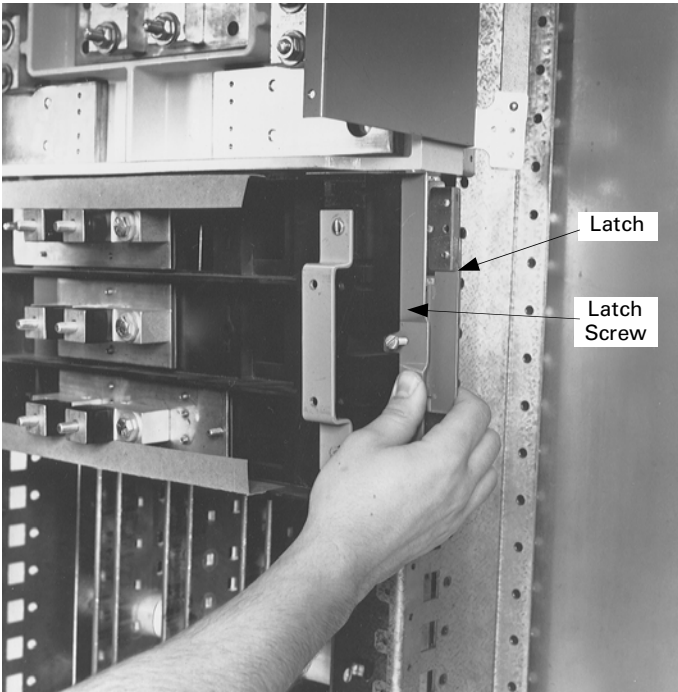
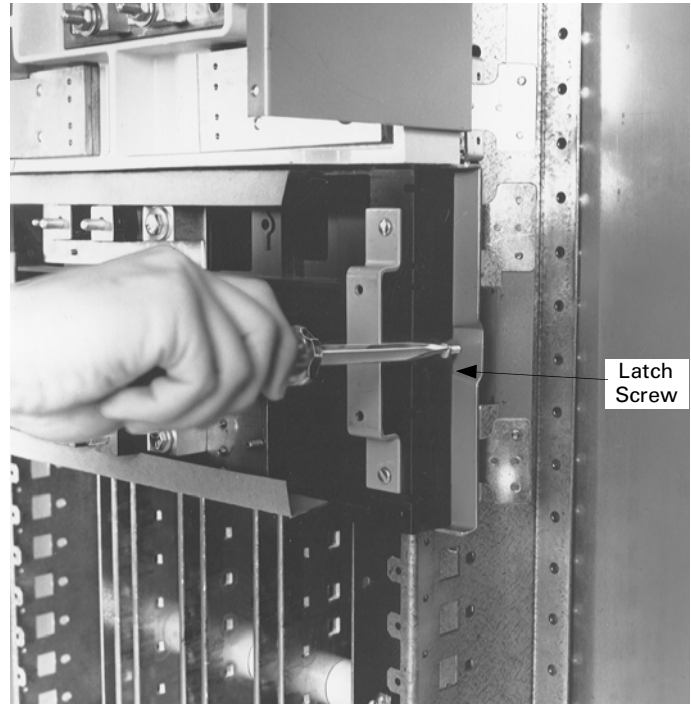

Figure 4. Positioning the breaker module on the interior rail.
Figure 5. Securing the module to the interior.
- 3. Install the breaker module.** Fully retract the latches and hook one side of the breaker module to the interior rail, as shown in Figure 4. Release the latch. Pivot the module onto the bus bars and engage the second latch. Release the latch. Tighten the latch screws to 25 in-lb, as shown in Figure 5.